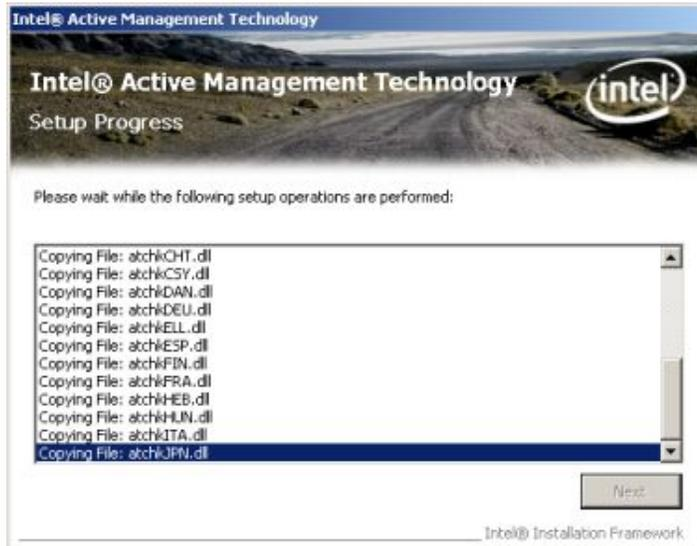

Figure 6-40: Intel® AMT Setup Operations
Step 10: Setup operations are performed. See Figure 6-40.
Step 11: When the Setup Operations in **Figure 6-40** are complete, the window in **Figure 6-41** appears.